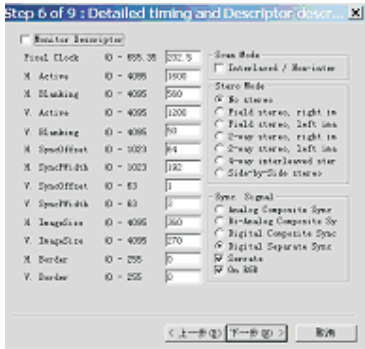

Fig. 18
5. Click Next , bring up Fig. 18.